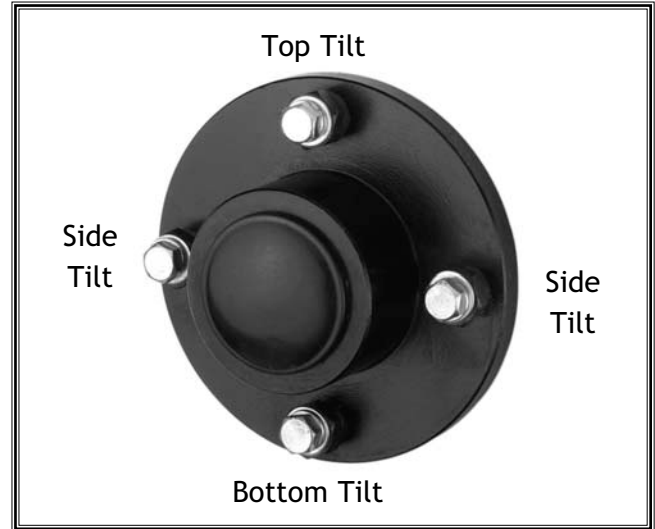

Figure 35. Lower wheel adjustment control.
6. If the wheels will go parallel but not coplanar, then move the lower wheel at the adjustment hub (Figure 35) as necessary.